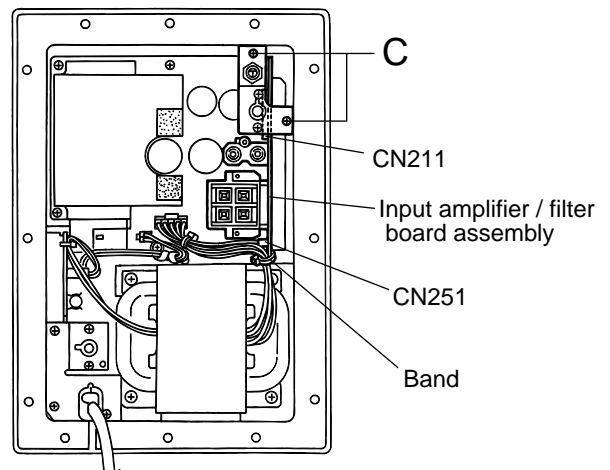

Fig.3
■ Removing the Input amplifier / filter board assembly (See Fig.3)